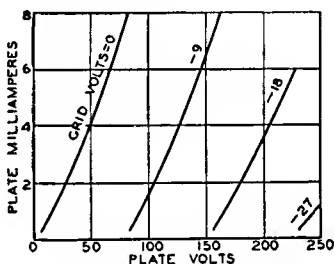
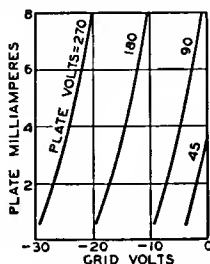

Fig. 11—Family of plate-characteristics curves.
Fig. 12—Family of transfer-characteristics curves.
**Static characteristics** may be shown by plate characteristics curves and transfer (mutual) characteristics curves. These curves present the same information, but in two different forms to increase its usefulness. The plate characteristic curve is obtained by varying plate voltage and measuring plate current for different grid-bias voltages, while the transfer-characteristic curve is obtained by varying grid-bias voltage and measuring plate current for different plate voltages. A plate-characteristic family of curves is shown in Fig. 11. Fig. 12 gives the transfer-characteristic family of curves for the same tube.